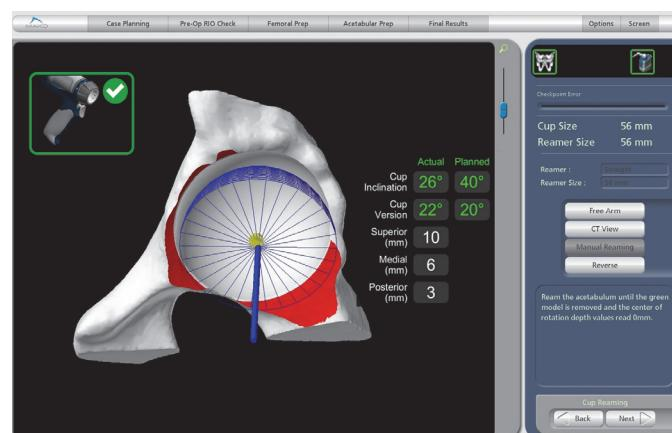

Figure 31. Acetabular Reaming Page during
3. Insert the reamer into the acetabulum and align the inclination and anteversion of the reamer handle such that the preoperatively planned values displayed on the screen turn green (Figure 31). These preoperatively planned values do not have to be matched to activate the power of the reamer. If the reamer exceeds 15 degrees of the planned values, the fail safe stop mechanism is activated. It is not critical that the surgeon exactly match the planned reaming numbers because the goal is to form a hemisphere that will allow the cup to be accurately placed at the planned inclination and version.